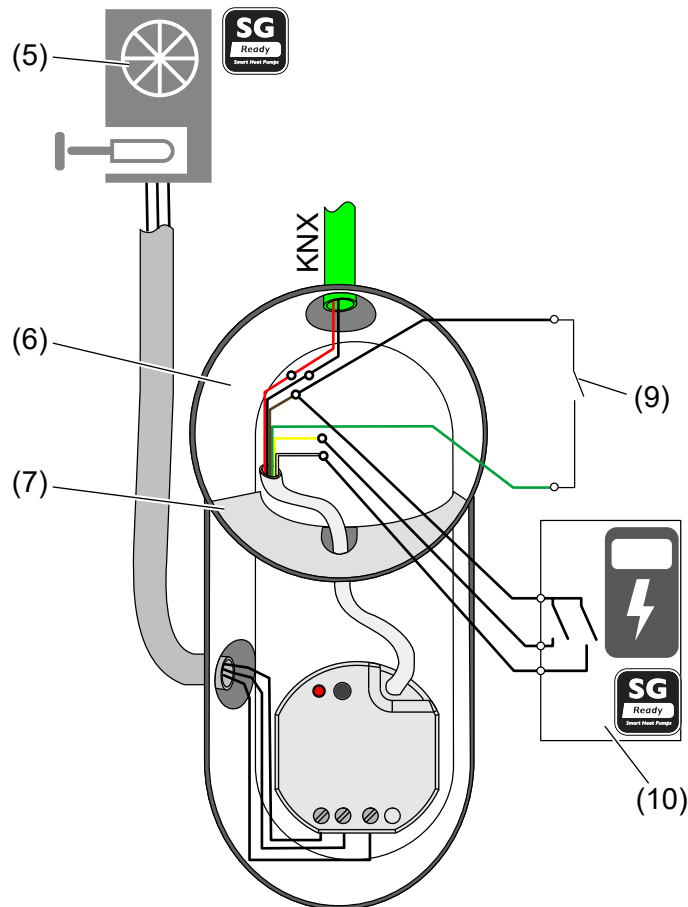

Figure 4: Mounting example, application 2
- Connect the Smart Grid Ready interface of an inverter (10) to **E2**, **E3** and **COM** (see figure 4).
- If required, connect the potential-free contact (9) to **E1** and **COM** (see figure 4).
- Mount the device (see figure 4).